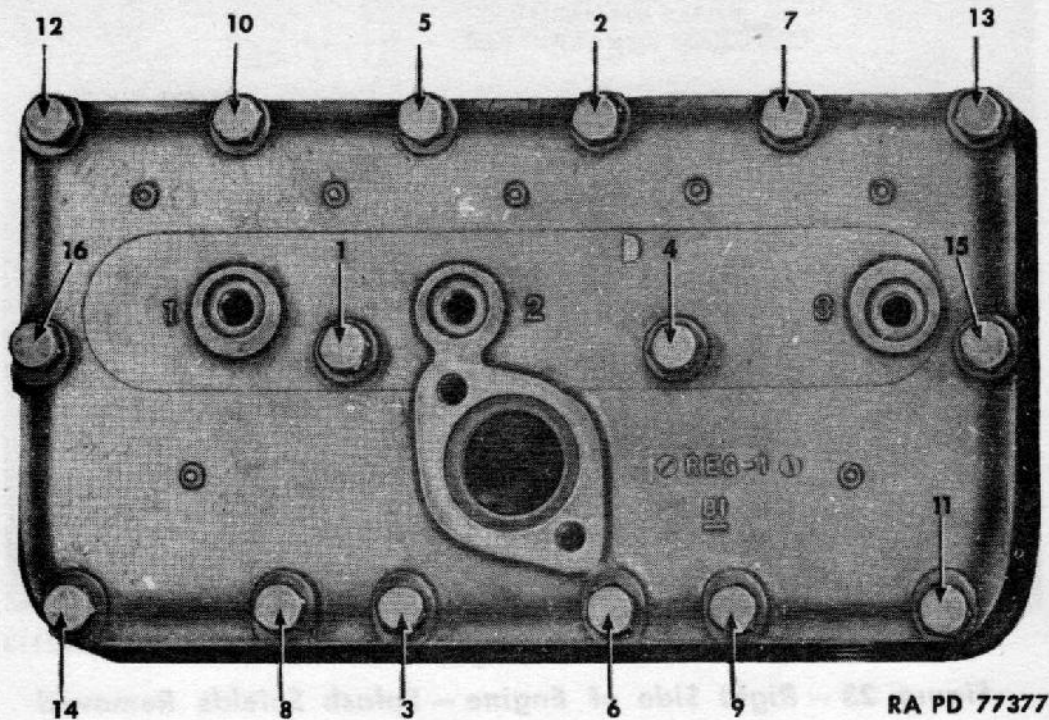

Figure 22 — Sequence for Tightening Cylinder Head Cap Screws
a. **Connect Cylinder Heads to Cylinder Block** (fig. 21). Soak cylinder head gaskets in water for about 15 minutes. Place gaskets in position on top cylinder block. Place front cylinder head in position on its gasket. Place rear cylinder head in position on its gasket. Insert the 16 cylinder head cap screws into their openings on each cylinder head. Place bond strap and heat indicator cable bracket under third cap screw from rear on right-hand side of rear cylinder head. On left-hand side of rear cylinder head, place spark plug wire nipples (brackets) under second screw from front and second screw from rear. Beginning at center and working toward ends of each cylinder head (fig. 22), tighten cylinder head cap screws to 52½ foot-pounds tension.